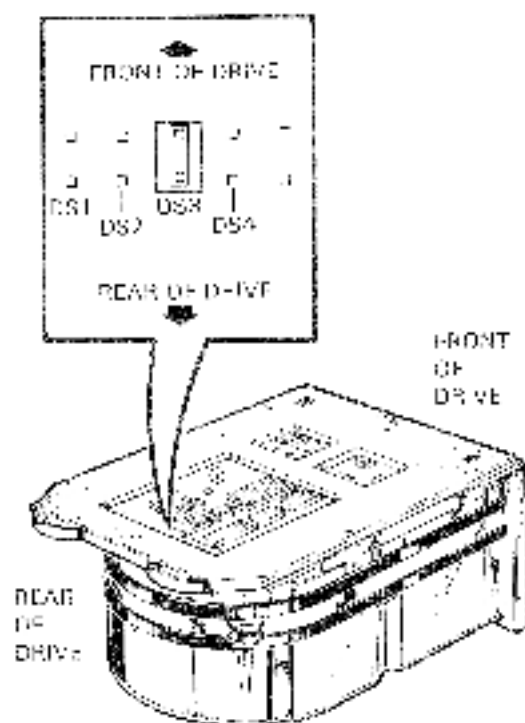

Figure 5-4 RD52 Disk Drive and Jumpers
**5.3.1.2 RD52** – The RD52 read/write printed circuit board has five pairs of pins (Figure 5-4). To configure an RD52 drive in a BA23-A enclosure as D00 (installed in port 0), place the jumper clip on D03. To configure an RD52 drive in a BA23-A enclosure as D01 (installed in port 1), place the jumper clip on D04.